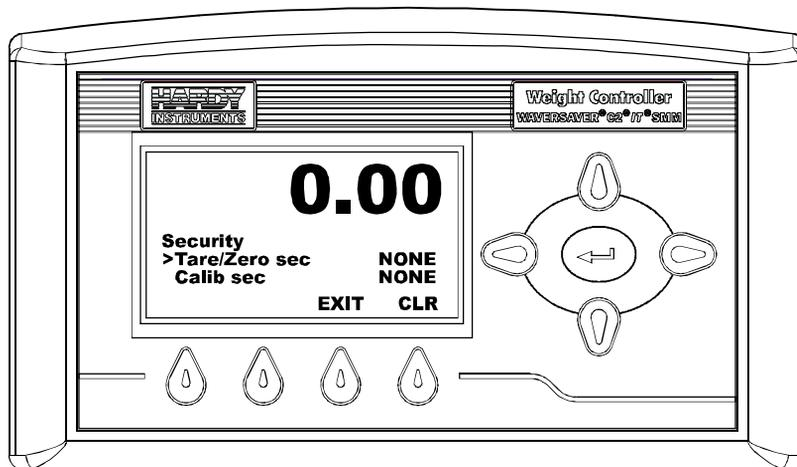

FIG. 284 SECURITY MENU/SOLACING SECURITY FOR TARE/ZERO
Step 12. To set security for the Tare/Zero functions, press the down arrow until the cursor is in front of “Tare/Zero Sec”. (See Fig. 284)